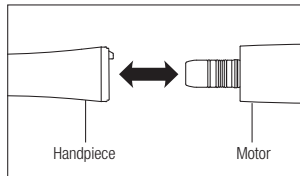

Fig. 1
- 1) Insert the handpiece direct into the motor (Fig. 1). When connecting an optic handpiece, turn the handpiece until it clicks and locks into position.